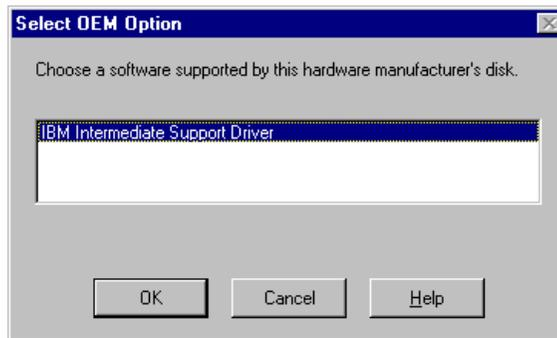

Figure 35. IBM Intermediate Support Driver (wedge) installation
6. Click **Have disk**. When it prompts you for location, change the location from A: to C:\TEMP\IBMWedge (or the location where you unpacked IBMWEDGE.EXE) and then press Enter. Figure 35 appears.